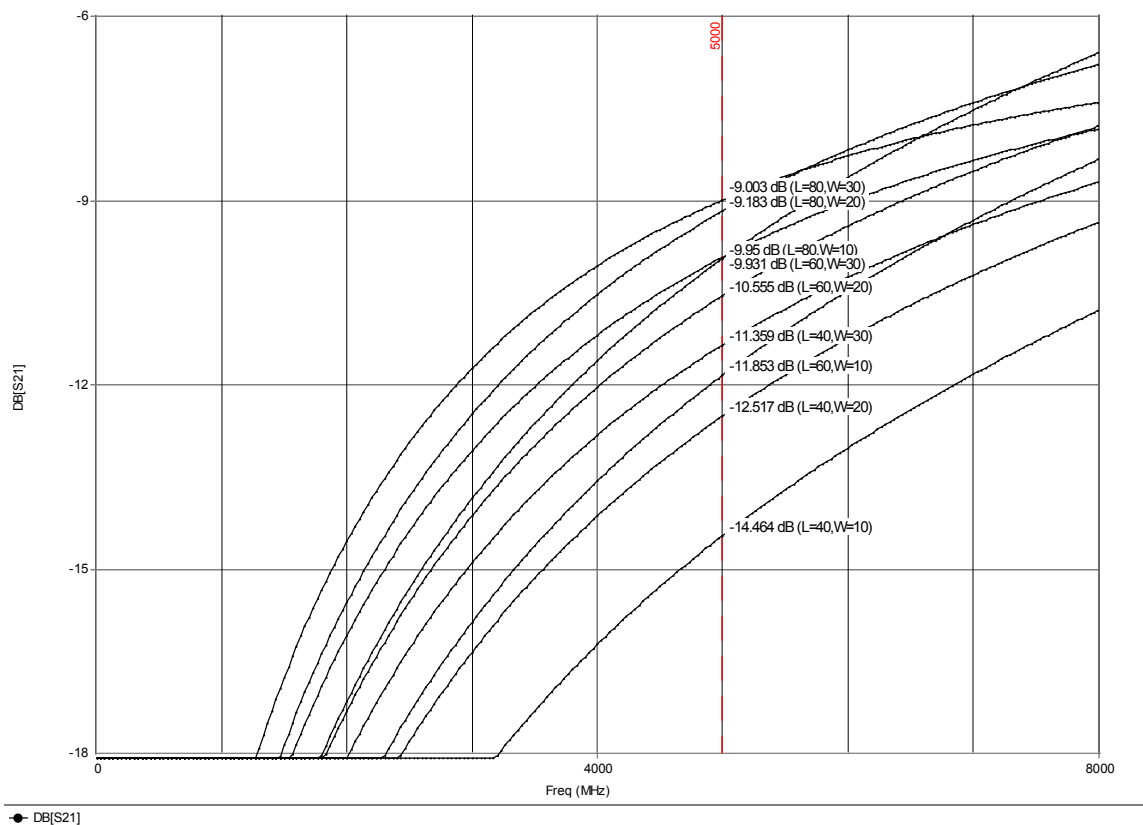

Figure 9. Sweep of Length and Width of Fingers
GENESYS makes it easy to sweep a second parameter, such as width, on top of the original sweep. In the above example, consider that the chosen length is between 40 and 80 mils. To consider the sensitivity to finger widths in the range of 10 to 30 mils, a second sweep is added. The same procedure described above is used, with width (W) the swept variable and start value (10), stop value (30), and number of points (3). However, in this case the “Simulation to Sweep” is set to “Sweep 1”. This yields a family of curves (Figure 9) covering the ranges: $[10 < w < 30]$, $[40 < L < 80]$.